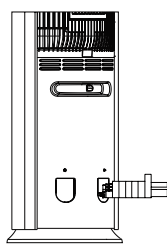
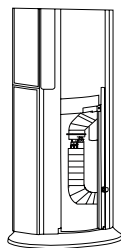

Fig.14
Fig.15
- You can select to cut off the baiting of exit pipe hole according to the elbow pipe direction, and then put the connection pipe through the exit pipe hole and then connect the connection pipe. (As show in Fig.14 and Fig.15)